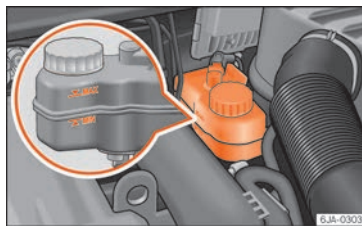

Fig. 246 Engine compartment: coolant tank.
- Check the brake fluid level in the reservoir » **Fig. 246.** It should be between the “MIN” and “MAX” marks.